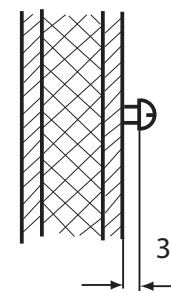

Fig. 3.2
2. Insert one of the wood screws into the top center hole. The control unit is hooked onto this screw. Therefore, leave the screw out by approx. 3 mm (Fig. 3.2).